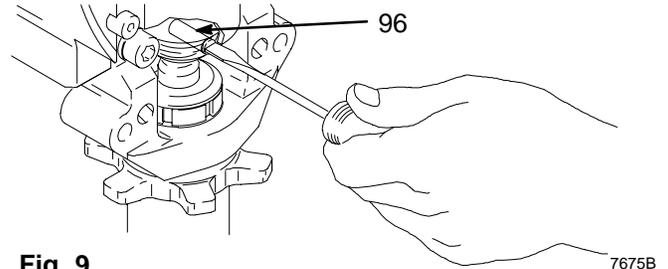

Fig. 9
5. Fig. 9. Use screwdriver: push retaining spring up and push out pin (96).
2. Fig. 9. Push pin (96) into hole. And push retaining spring into groove all the way around connecting rod.